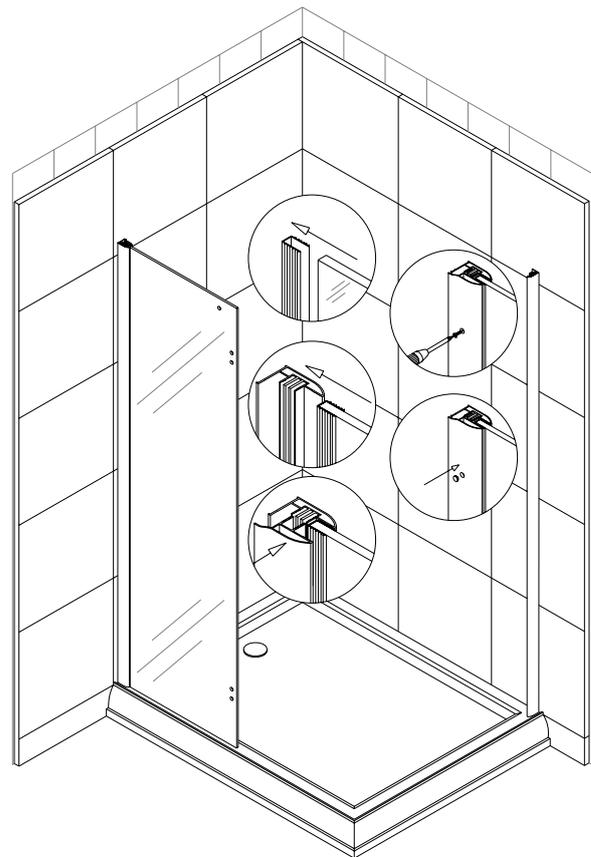

Fig 2
2. Attach the second part of **wall profile (1)** to the **L-shape profile** using 4X16 round self-tapping screw (14) slightly fasten the profile (fig 2).
3. Have out the **Narrow Stationary Glass panel (2)**. Locate a small hole on the stationary glass. This hole must be located on the top and toward the door. Place a **U-Shape Gasket(17)** on the long (vertical) side of the glass panel; then fit the glass with the gasket into the assembled **Wall Profile (1)**, then fasten it tight (fig 2).